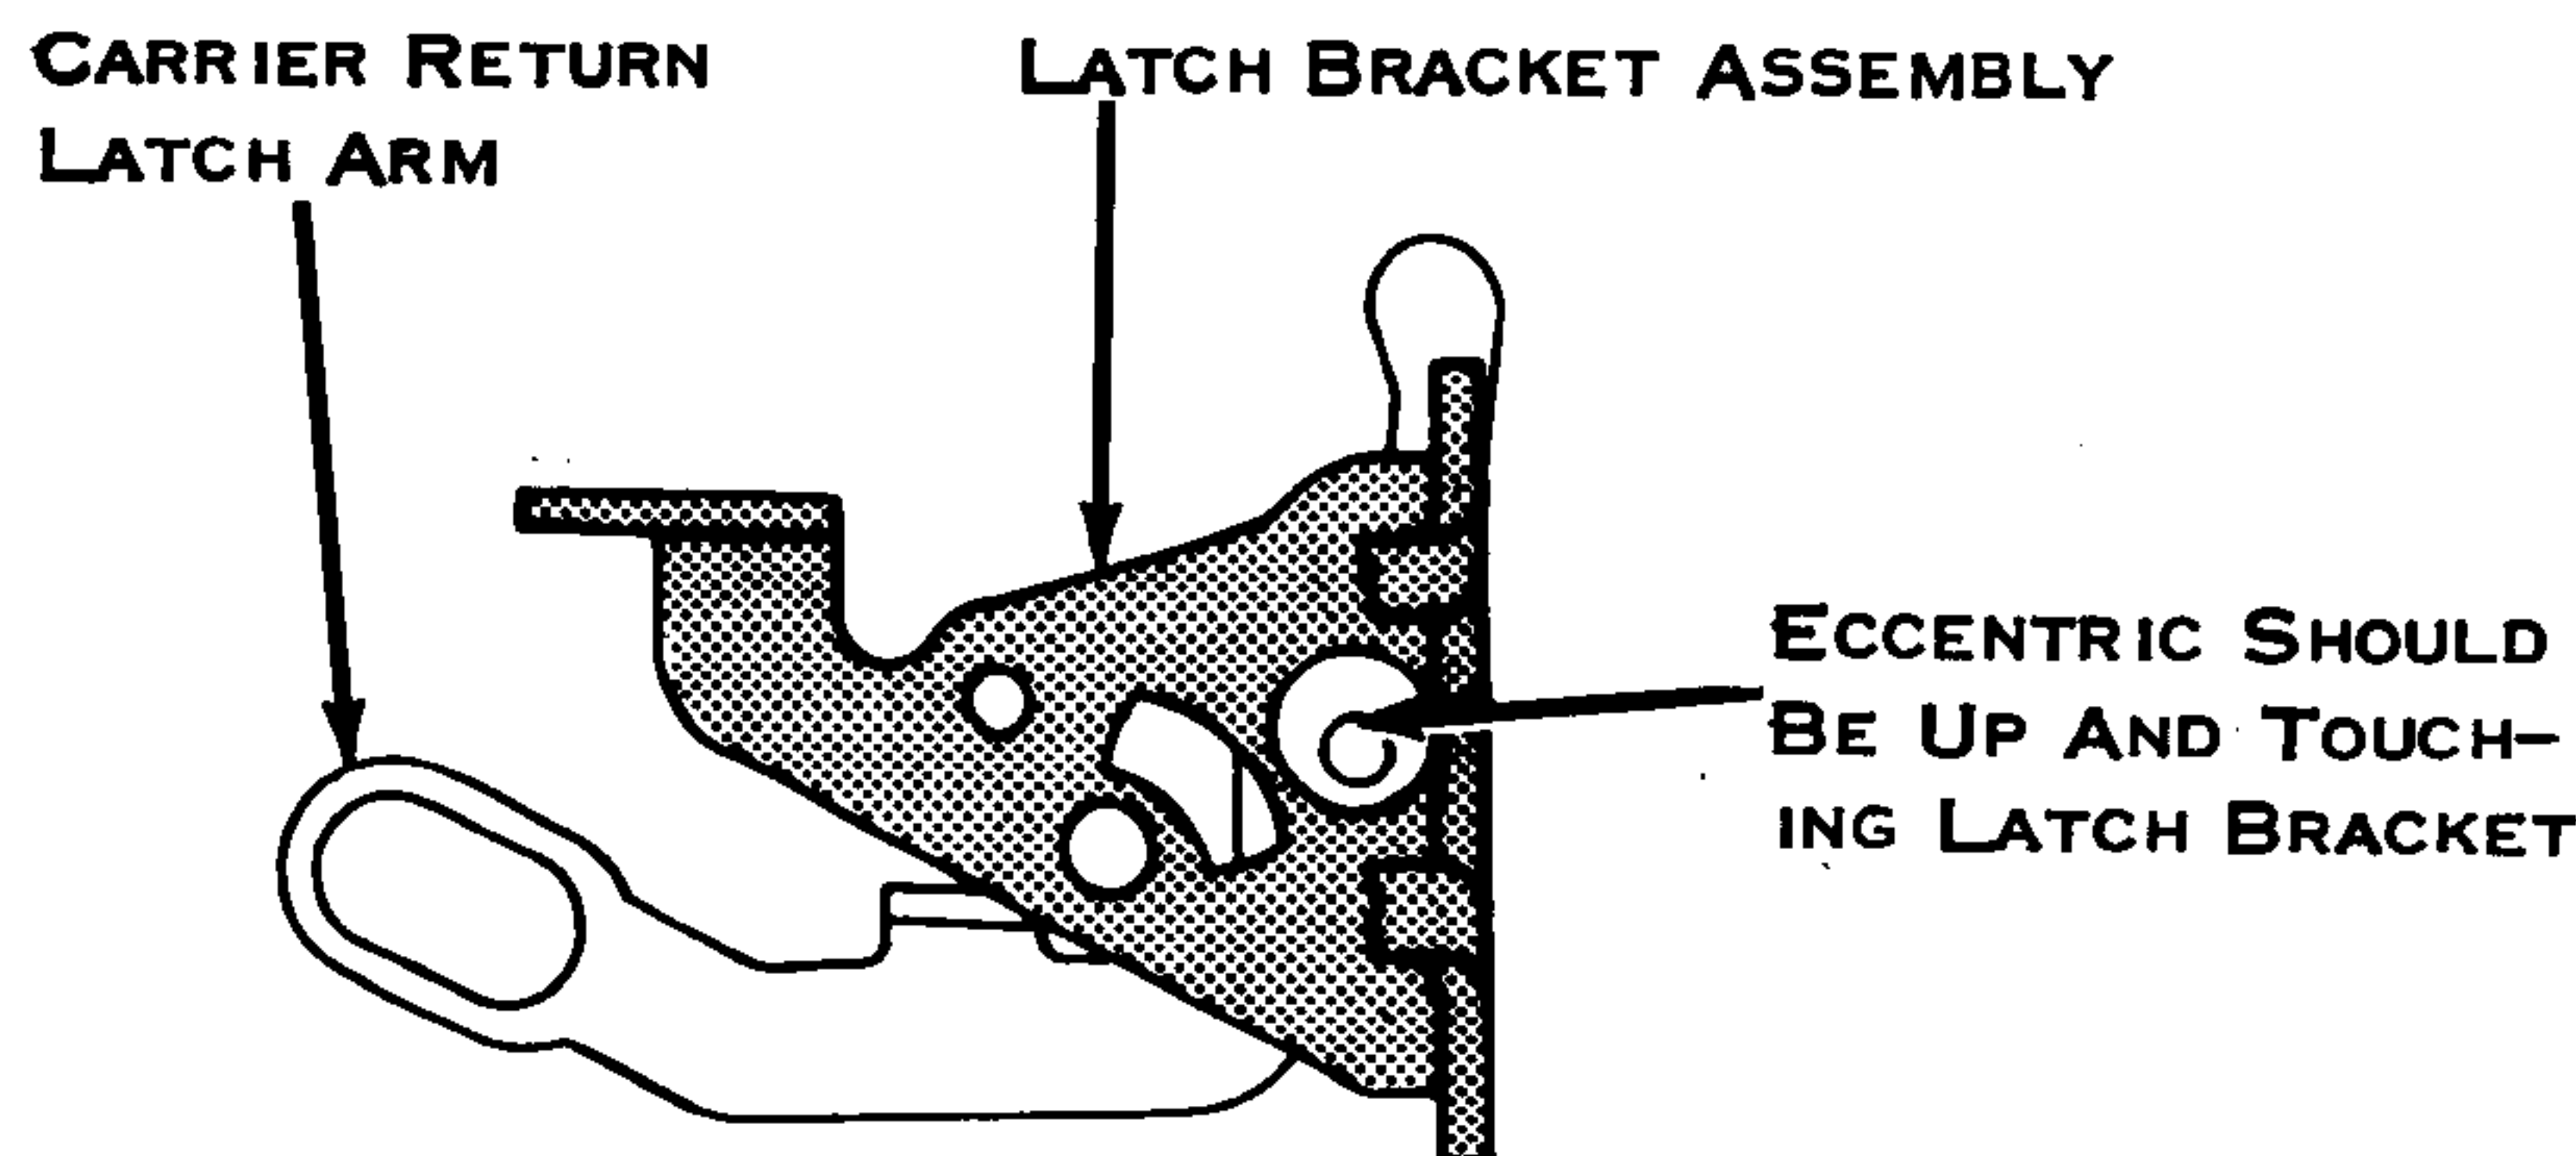

Figure 148. Pivot Pin Eccentric
4. Operational Latch Pawl Pivot Pin Eccentric, Old Style Only (Fig. 148) - The eccentric collar should be adjusted with the high point up so that it just touches the operational latch bracket. NOTE - The eccentric may require a readjustment if the rest position of the pivot pin is changed during carrier return adjustments. End play of the pivot pin on 15" machines should be .002" to .005".